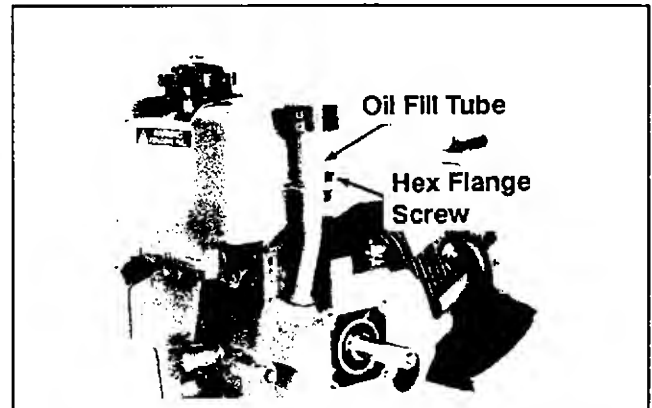

Figure 11-35. Installing Oil Fill Tube (CH5). (Some have bracket at base.)
2. Install oil fill tube into the hole in the crankcase on CH5. See Figure 11-35. Note: Some CH5 models have bracket at base of tube.